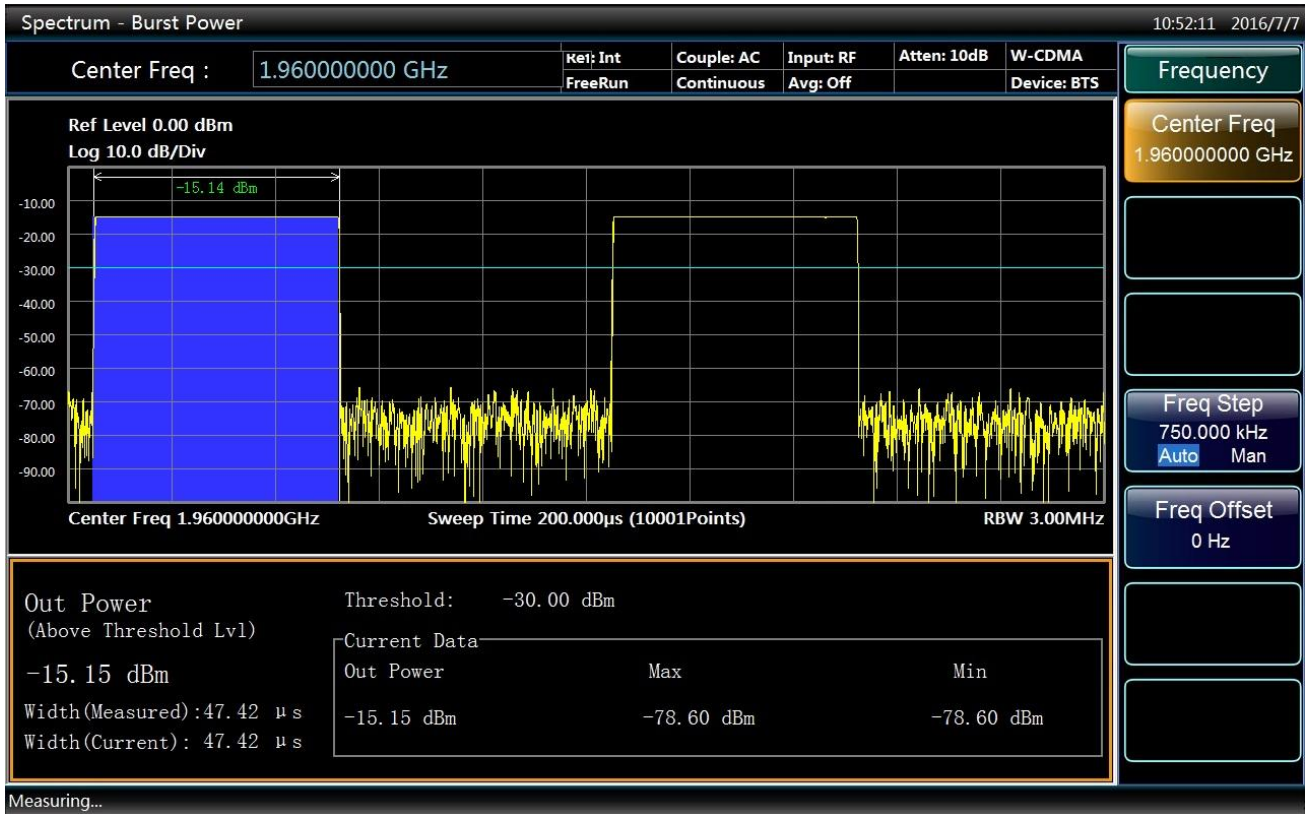

Fig. 4.75 Results of Burst Power Measurements
- Results of burst power measurements are shown in Fig. 4.75.